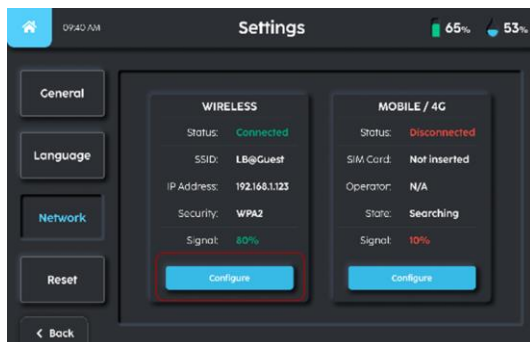

FIGURE 6-3
3. The user may change the operating network by selecting the 'Configure' button (Fig 6-3).